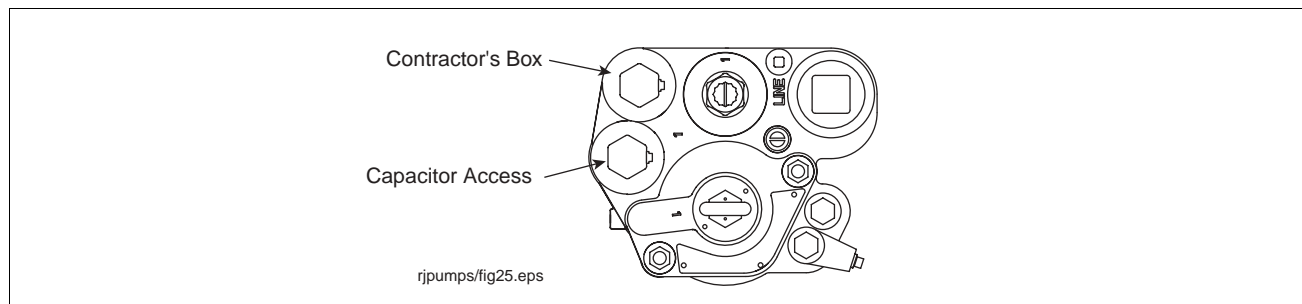

Figure 33. Locating contractor's box and capacitor compartment
1. Remove capacitor access cover (see Figure 33).
1. Remove the contractor's box cover (Figure 33 on page 34). Remove and discard the o-ring from the cover. Set aside the cover.